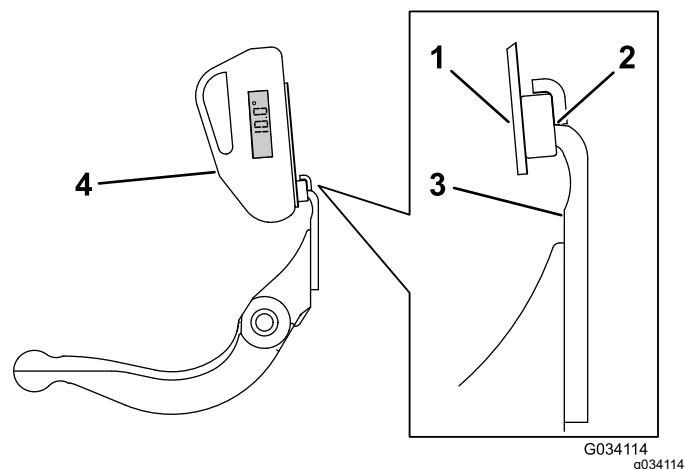

Figure 25
- Place the angle-indicator mount on the edge of the bedknife so that the edge of the magnet mates with the edge of the bedknife (Figure 25).
- Place the angle indicator on the mount as shown in Figure 25.